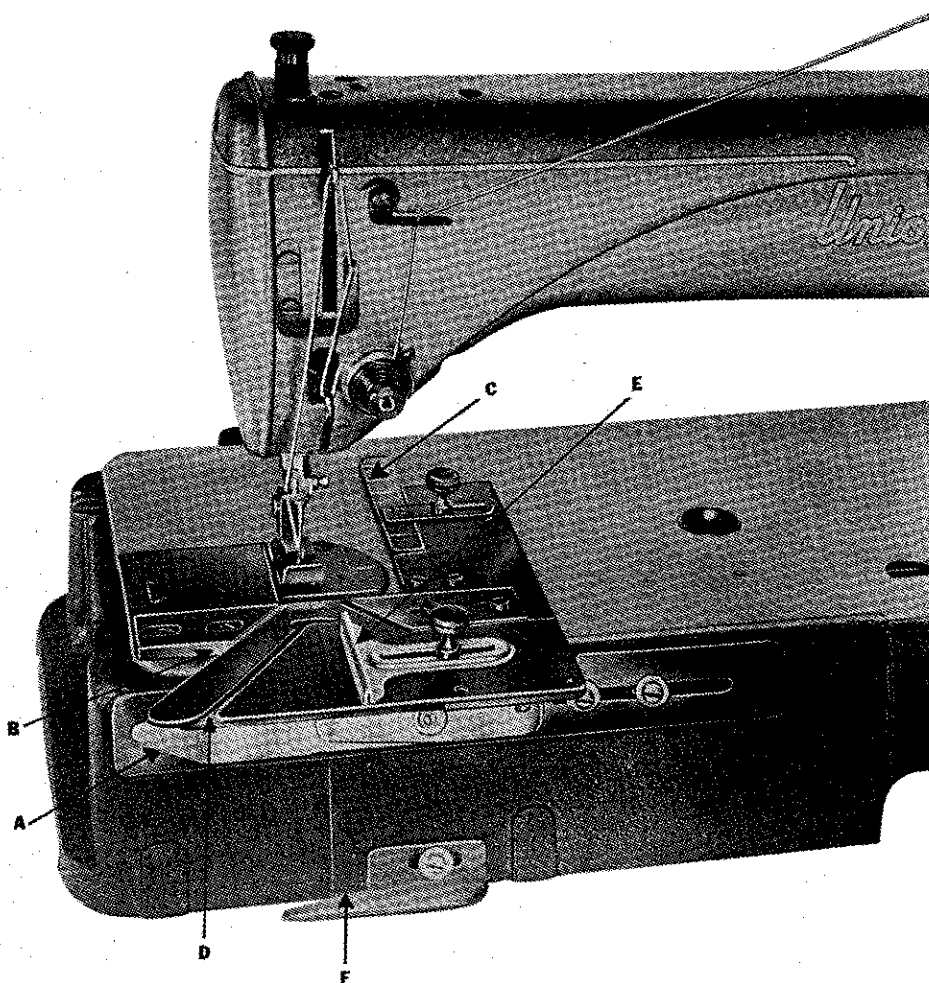

Fig. 5
Raise the presser foot on the machine with the knee lifter. Then, draw the tie lining into the stretching device (A, Fig. 5) through the lining guide (B) and under the presser foot, placing the edge of the lining against the ruler edge guide (C) with the end of the lining located at whichever number you choose to use as a starting point.